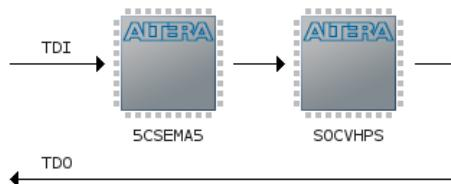

Figure 9-20. JTAG Scan Chain
You should now see 2 devices on the JTAG scan chain, as shown in Figure 9-20.
45. Right-click on the “5CSEMA5” device shown in Figure 9-20 and choose “Edit > Change File”. Then, select “DE1\_SoC\_demo/hw/quartus/output\_files/DE1\_SoC\_demo.sof” through the file browser.